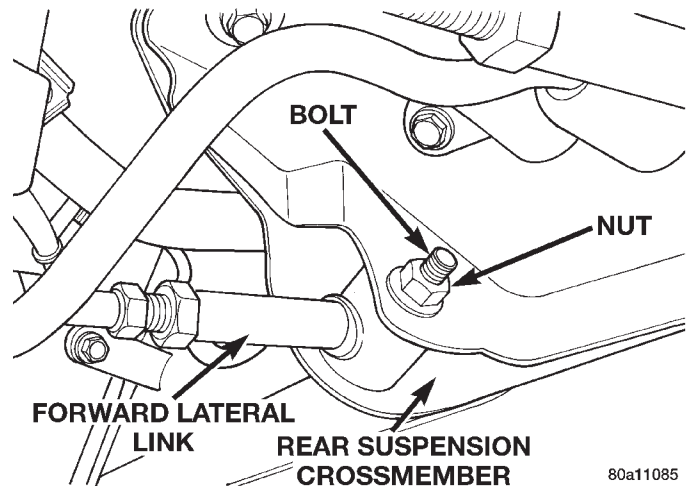

Fig. 44 Lateral Link Attachment To Rear Suspension Crossmember
(5) Remove the nut and bolt attaching the lateral link to the rear suspension crossmember (Fig. 44).
(6) Remove the forward lateral link from the vehicle.
(1) Install the lateral link and the attaching nut and bolt at rear suspension crossmember (Fig. 44).